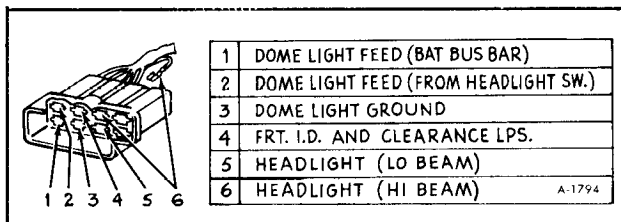

Figure 16-Front Wiring Connector
Dome lights, headlamps and front clearance lights are fed through an (8) way multiple connector located under the instrument panel. The front lighting wiring is part of the instrument panel wiring harness. Figure 16 shows the female portion of the front lighting harness and the appropriate wire position in the connector body.